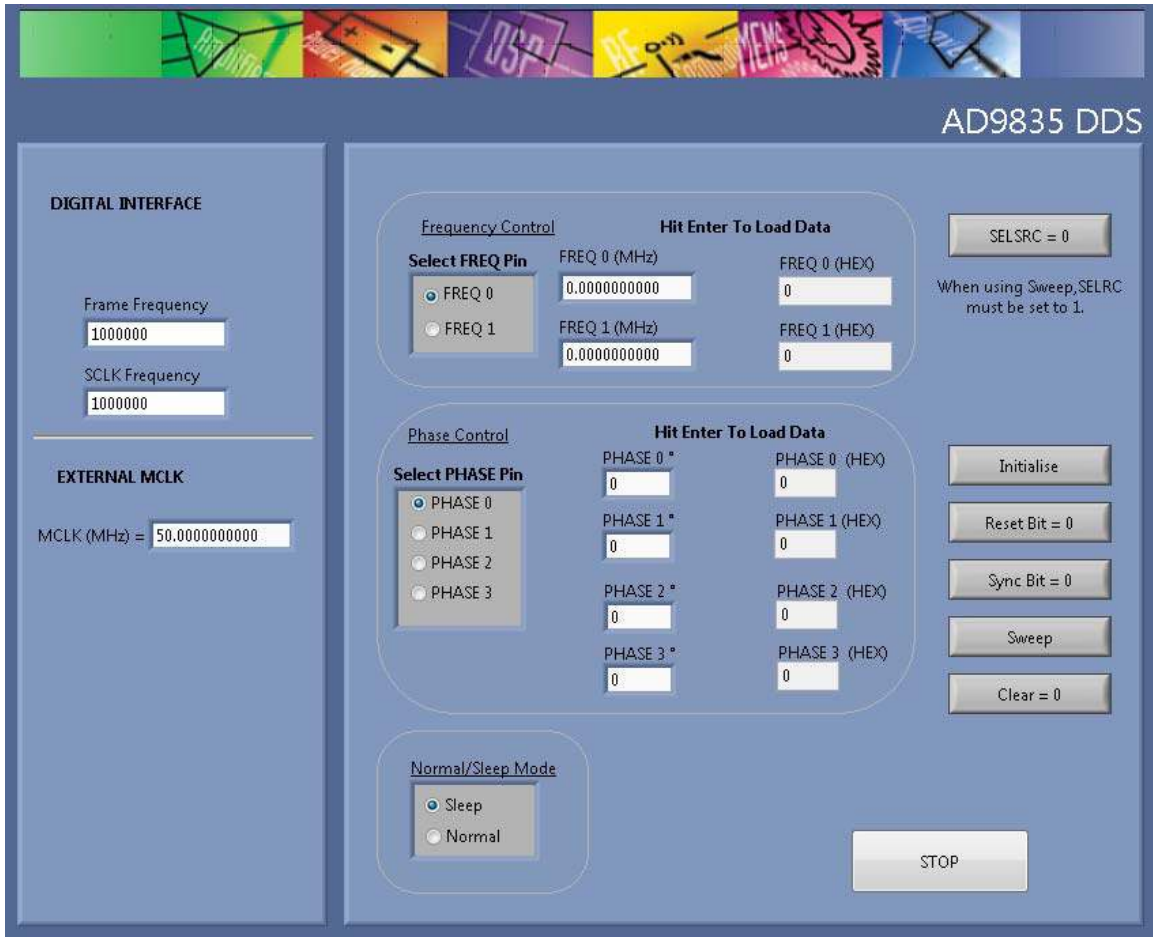

Figure 4. AD9835 Evaluation Board Software
3. Ensure that all links are in their correct locations (see Table 1). The main window of the **AD9835** evaluation software then opens, as shown in Figure 4.
The first step in setting up the AD9835 to take measurements is to set the **DIGITAL INTERFACE** in the software window (see Figure 4).